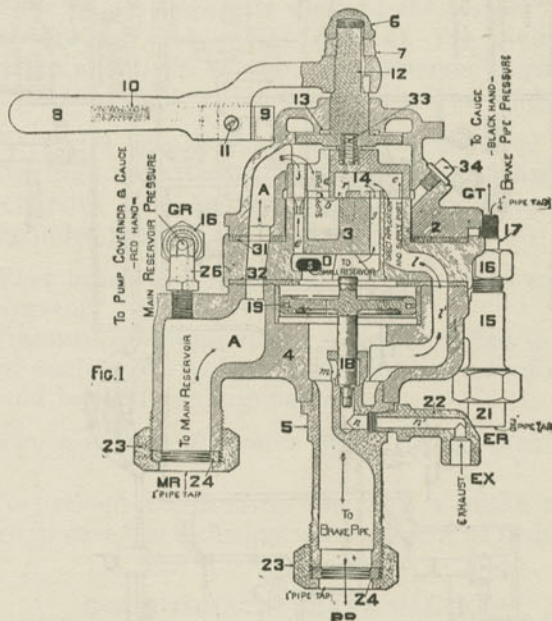

Fig. 445. Engineer's Brake Valve, "G-6," Release Position.
A. As the pipe from the main reservoirs is connected at MR (Fig. 445), main reservoir air passes through A, A to the chamber above the rotary valve 14, through this and the passage *ll* to the brake pipe at BP. Port G being exposed to cavity *c* lets air into chamber D above the equalizer piston 18. Rotary valve *j* registers with *e* and lets air into chamber D; so that in this position the equalizing reservoir is fed from two ports and the brake pipe from one.